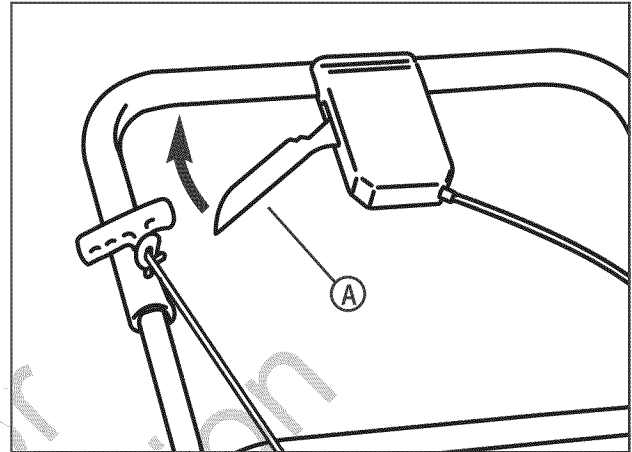

Figure 12: Operating the front wheel drive system
2. Pull the drive lever (A, Figure 12) completely back. The drive system is now engaged.